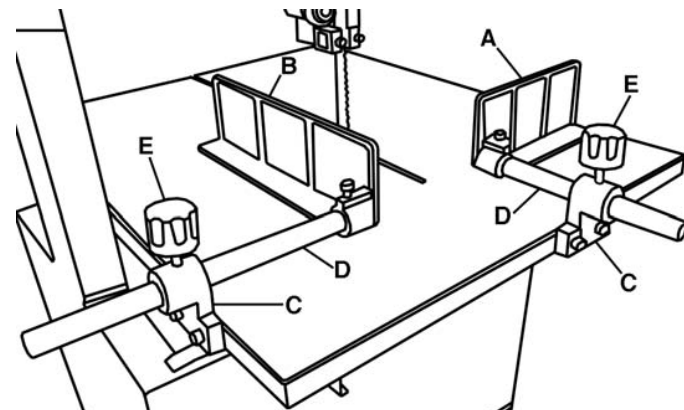

FIGURE 13
For safety reasons, it is recommended to support any piece of meat with a fence. To install the short (A) Fig.13 and long (B) fences to the table, first install the fence brackets (C) using cap screws. Insert the fence shafts (D) into each fence and secure them with cap screws. Finally, insert the fence shafts into the fence brackets and secure them with lock knobs (E).